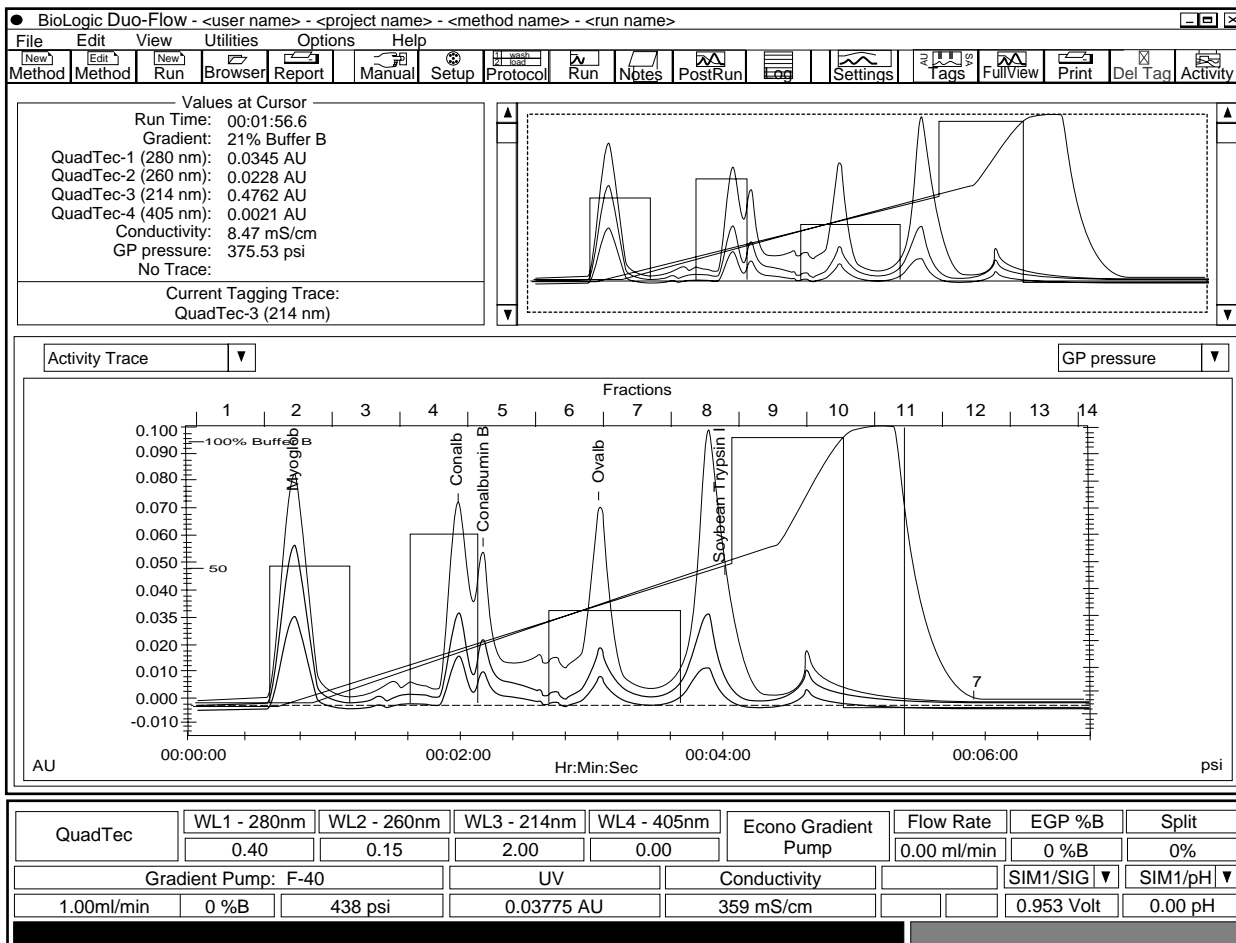

Figure 7-14. Activity Trace
3. The activity values entered will appear along with the chromatogram data that appears in the upper left hand corner as the cross hatch is moved across each peak and fraction. (See Figure 7-14.)